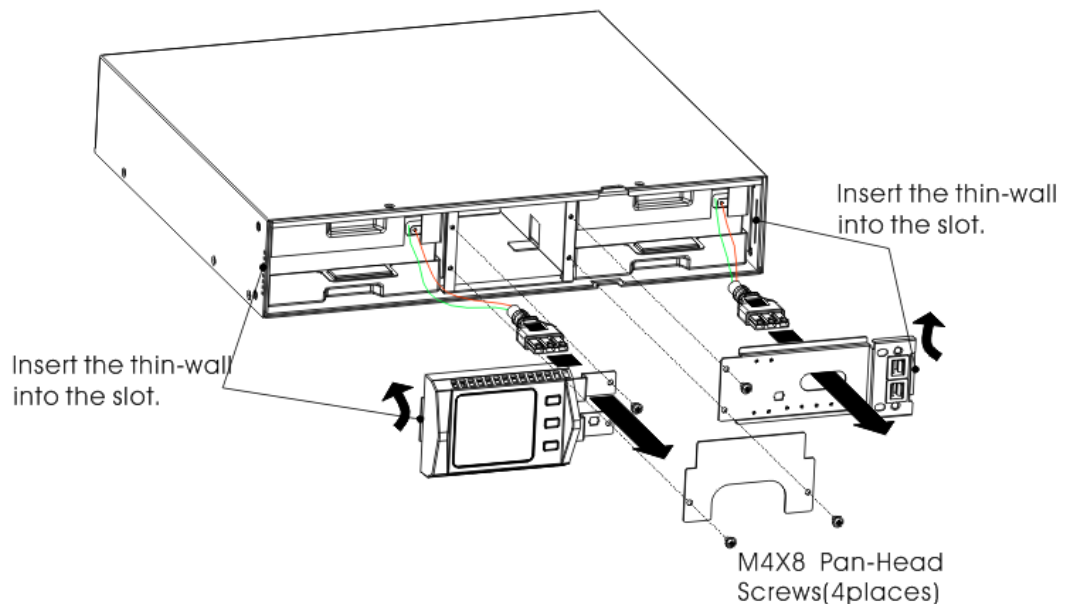

Figure 23
- 5. Hold the middle of the new battery pack, insert it. Once install the new battery pack, make sure it is completely inserted into the chassis as fig 23 shown